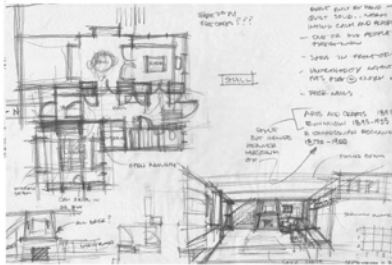

Figure 1-13: Hand sketches imported, modeled, shadow-studied, and then colored in Photoshop. Courtesy of mkerdesign.com.
- ▶ Export the model as a JPG and import it into a digital imaging program to add color (Figure 1-13).